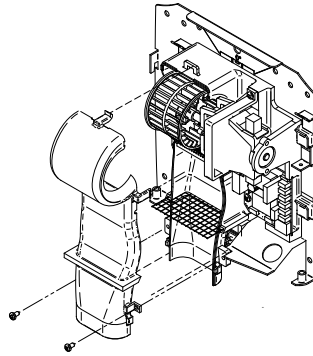

FIG. 10
- Remove upper tunnel. (FIG. 10)